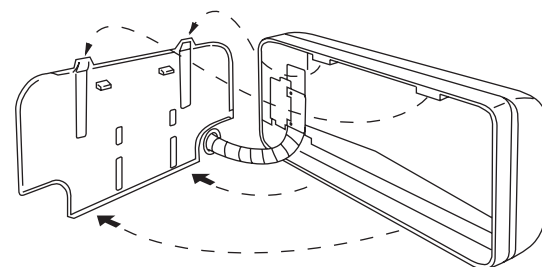
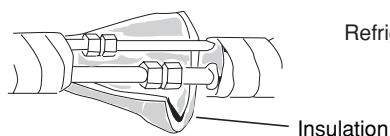

Fig. 36
Fig. 37a
- (2) Push the wiring, refrigerant tubing, and drain hose through the hole in the wall. Adjust the indoor unit so it is securely seated on the rear panel. (Fig. 36)
- (3) Carefully bend the tubing (if necessary) to run along the wall in the direction of the outdoor unit and then tape as far as the fittings. (See Caution on page 18.) The drain hose should come straight down the wall to a point where water runoff won't stain the wall.
- (4) Connect the refrigerant tubing to the outdoor unit. (After performing a leak test on the connecting part, insulate it with the tubing insulation. (Fig. 37a)) Also, refer to Section 5-4. Connecting Tubing between Indoor and Outdoor Units.